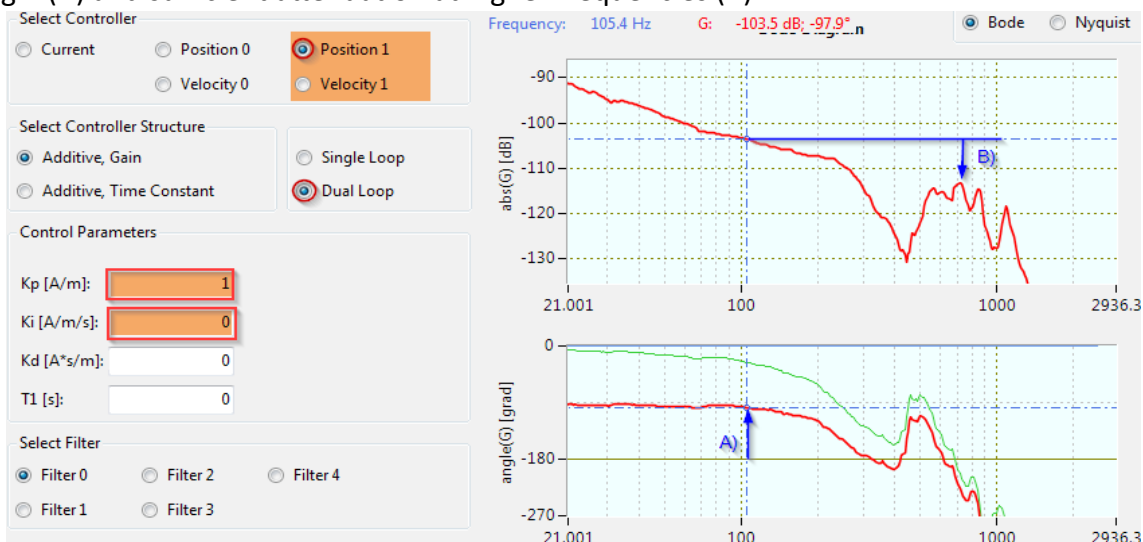
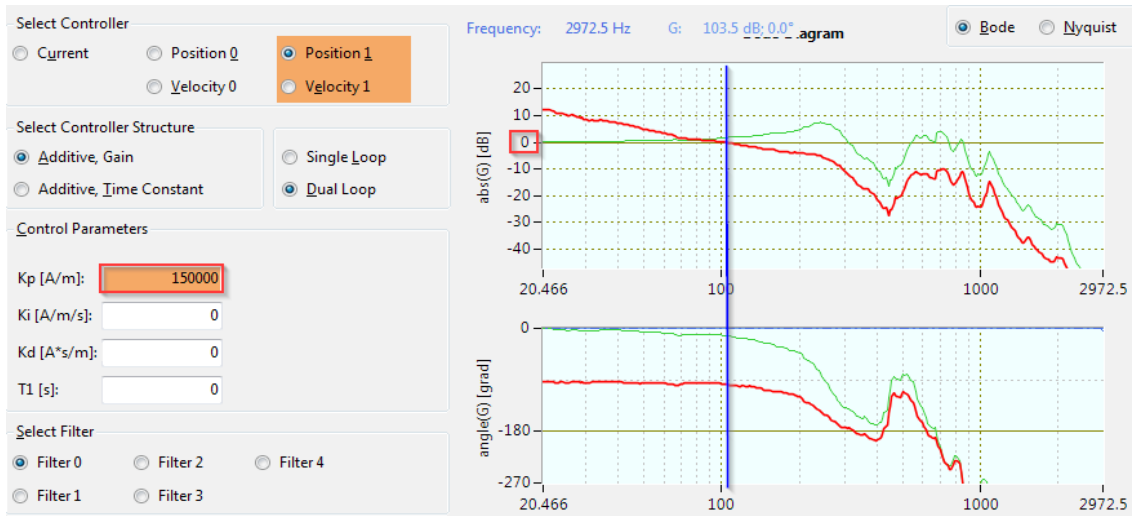

Figure 8: Tuning of outer loop: A) phase margin; B) attenuation at higher frequencies.
Figure 9: Gain crossover frequency with tuned K_p .
- Activate **Position 1** in the **Select Controller** panel and **Dual Loop** in the **Select Controller Structure** panel and set $K_r = 1$ and $T_n = 0$ and activate the **Bode** plot view (Figure 8).
- In the bode plot choose a gain crossover frequency f_{gc} as displayed in Figure 8 with sufficient phase margin (A) and sufficient attenuation at higher frequencies (B).
- In the example displayed in Figure 8 f_{gc} is chosen at 105Hz where the open loop gain G_{gc} is -103.5dB (with $K_p = 1$). With G_{gc} the controller gain can be calculated with equation (8) which yields $K_p = 150000$. With this K_p , the open loop gain in the bode display should now cross 0dB at f_{gc} (Figure 9).